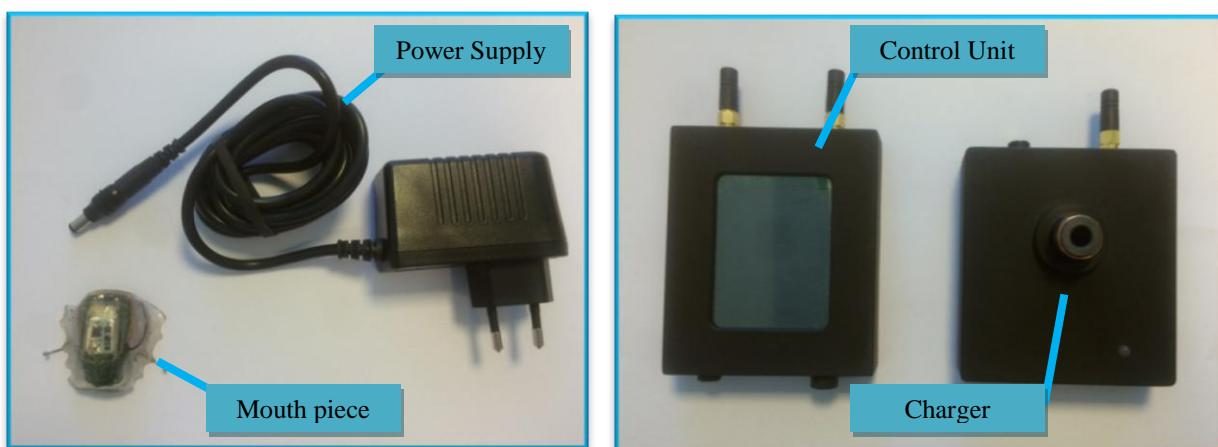

Figure 1 : Itongue parts and cable.
The Itongue consists of four parts: An activation unit (AU), a Mouthpiece Unit (MPU), a Control Unit (CU) and a Charger for the Mouthpiece Unit (CMU). The CU and CMU each include a power supply. See Figure 1 for a diagram of the Itongue, excluding the activation unit.
- Place the mouthpiece sensors down on the mouthpiece holder, as shown in Figure 1.